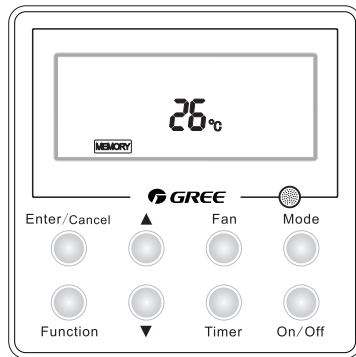

Fig.5 “Off” Status
- Fig. 5 is the “Off” status when the unit is powered on. Fig.6 show the “On” status when the unit is powered on.